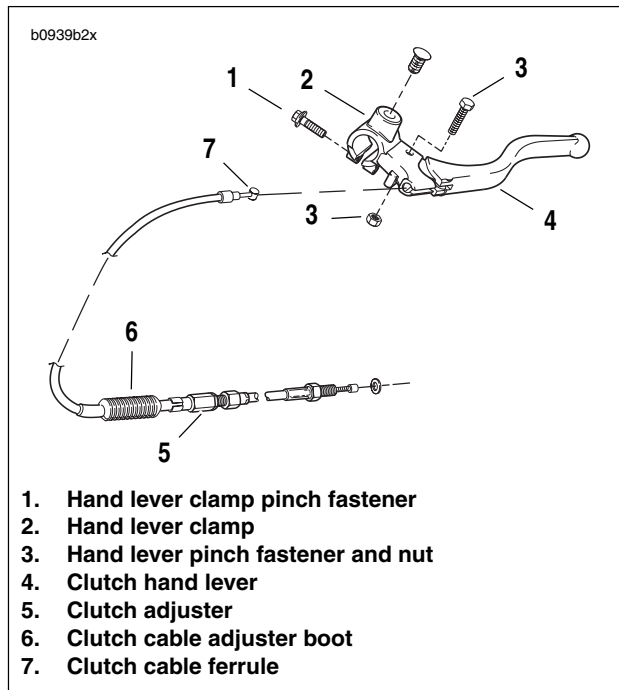

Figure 2-101. Clutch Hand Control Assembly
8. See Figure 2-101. Connect clutch cable ferrule (7) to hand lever (4).